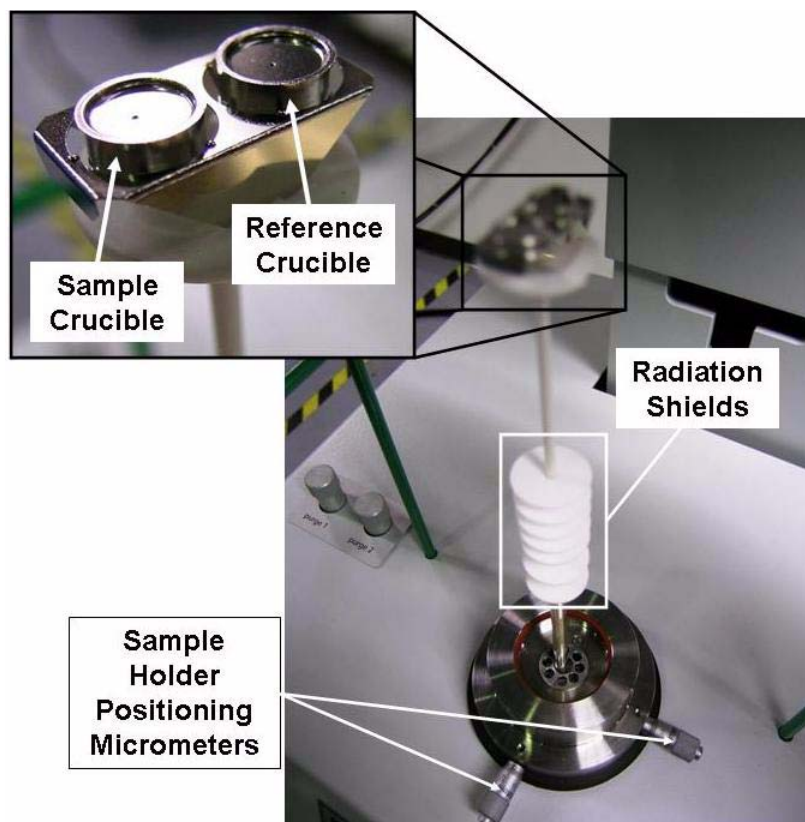

Figure 10. Crucibles and sample carrier adjustment micrometers.
Step 10: At high temperatures, the crucibles may become weakly bonded to the sample carrier (if using the platinum crucibles). If a test has been run previously, the crucibles must be loosened. This is accomplished by lightly grasping the crucibles (one at a time) with forceps and gently rocking the crucibles back and forth until they loosen. The crucibles and sample carrier adjustment micrometers are shown in Figure 10.
Steps 21-25: Purge the system by switching on the small vacuum pump connected to the system. Slowly open (turn counter clockwise) the valve shown in Figure 10. The pressure reading on the gauge should slowly fall. Once the reading stabilizes, close the vacuum valve and restart purge gas flow using the software. Watch the vacuum gauge. When the gauge reads a pressure of just greater than zero (atmospheric pressure), slowly open the exit valve at the top of the furnace. Repeat the purging cycle twice more.